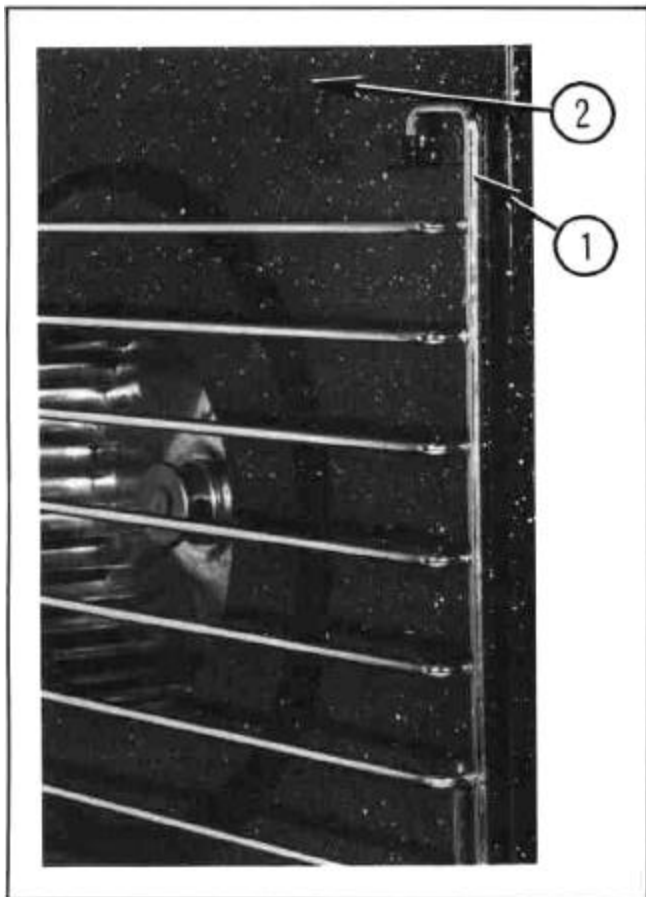

Figure 4-5
5. Remove racks and rack supports from oven cavity (Fig. 4-5 No. 1).
6. Remove baffle (Fig. 4-5 No. 2)